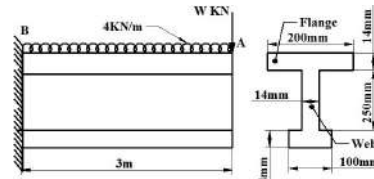

Figure 37
18. A cantilever has an I section with unequal flanges. The upper and lower flanges are (200mmx14mm) and (100mmx14mm) respectively. The web is (14mmx250mm). The cantilever is subjected to UDL of magnitude 4kN/m over its entire length and a point load W at the free end as shown in the Figure 37. Yield stress for the material of cantilever is 330MPa. Taking the factor of safety as 2. Determine the magnitude of maximum load W that can be applied.